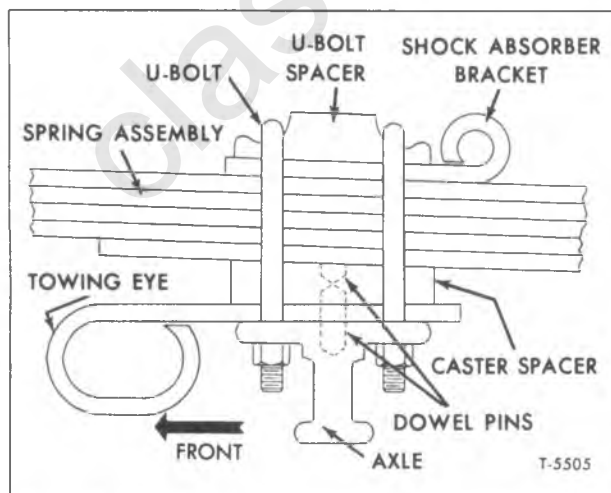

Figure 2—Front Spring Caster Spacer ("E" and "S" Models)
6. Remove shock absorber bracket (if used) (figs. 2 and 3), spring caster spacer, tow eye (if used) and dowel pins (when used). Also, front spring rear hanger cushion (when used). Remove spring.
**NOTE:** Refer to figures 2 and 3 for correct position of caster spacer at time of installation.